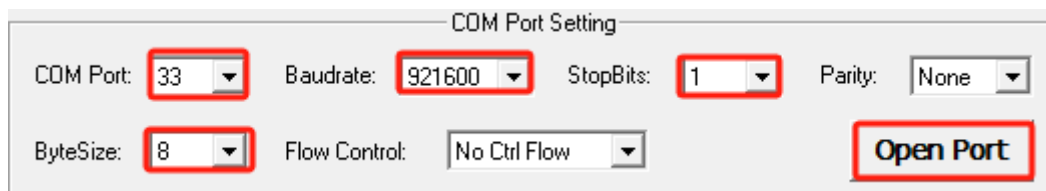

Figure 16: Connection Settings
Step 2: Open your serial port tool to select the serial port. Using the QCOM tool as an example, from “COM Port Setting” window as shown in Figure 16: Connection Settings, select the port with the largest port number among the 4 COM ports and configure the following settings: